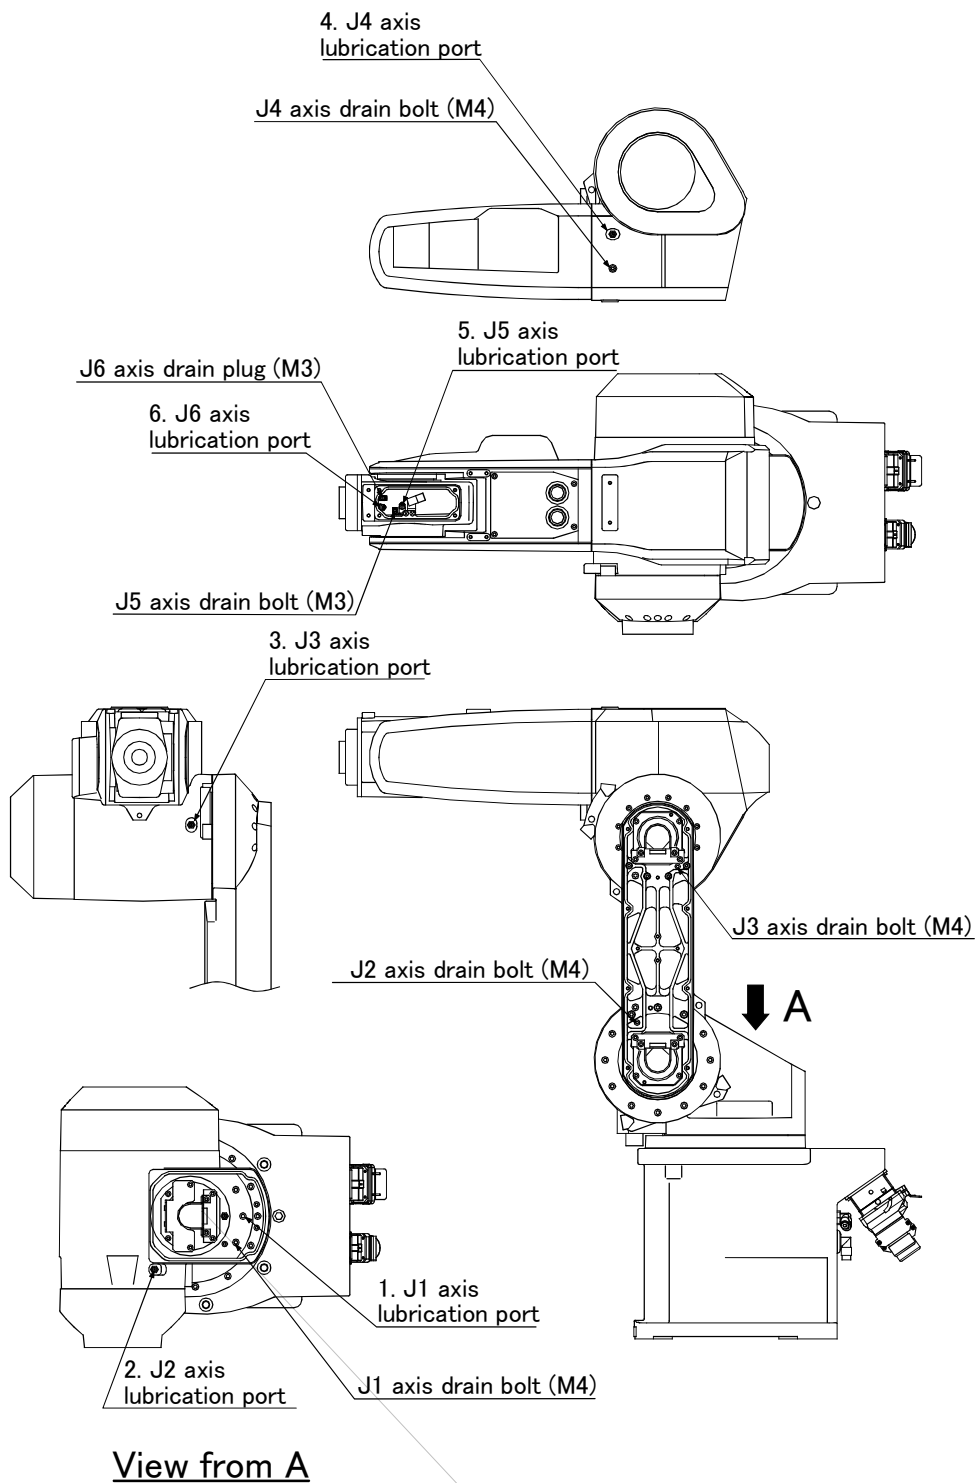

Fig.5-6 : Lubrication positions
The grease nipple position is shown in Fig. 5-6. The lubrication specifications for each place are shown in Fig. 5-6 [Caution]
- The numbers in the correspond to the supply positions in Fig. 5-6.
(2) Lubrication method
- 1) Set the robot to the posture shown in Fig. 5-6.